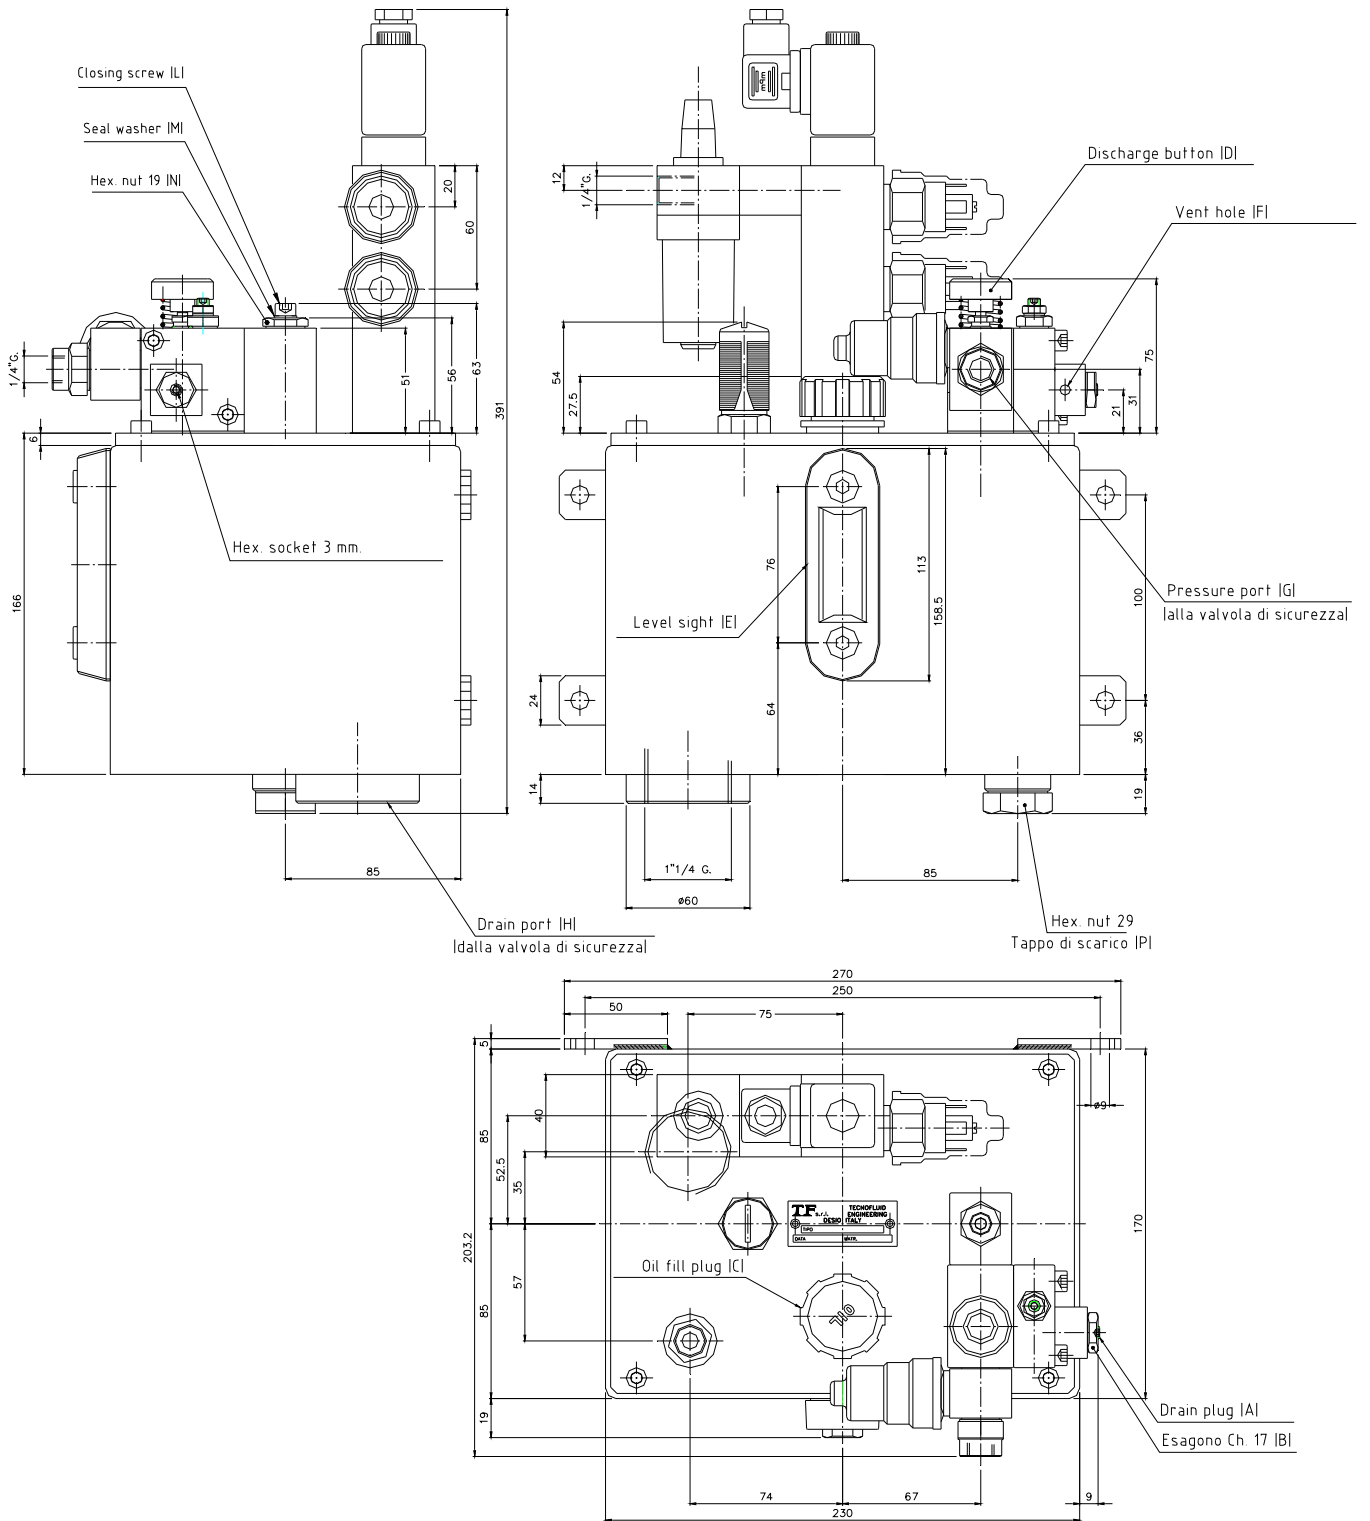

fig.3
## Control unit, code 5-1536-\*-0 (figure 3)
**Control unit, code 5-1536-\*0 (figure 3)**